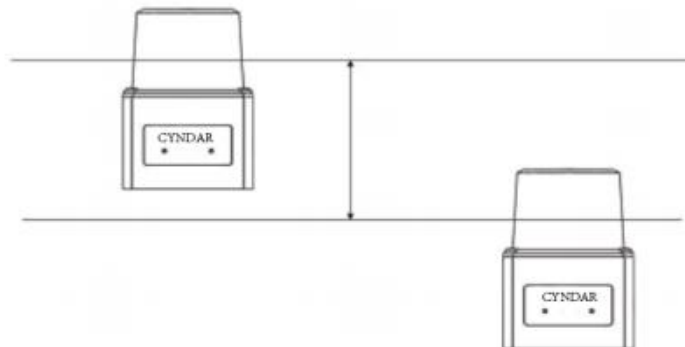
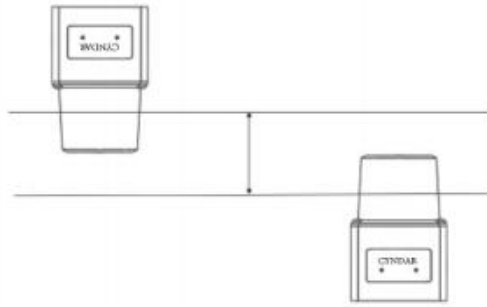
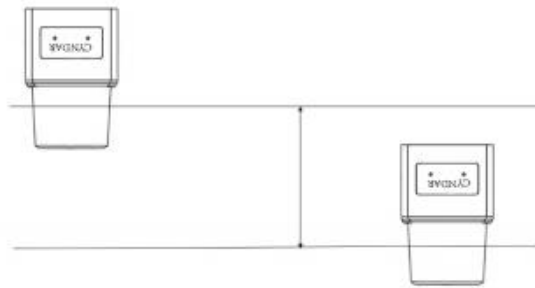

Figure 18. Vertical installation diagram (1)
Figure 19. Vertical installation diagram (2)
Figure 20. Vertical installation diagram (3)
2. When two or more radars are installed vertically, it is recommended to stagger the light output position of the radar by a certain distance to avoid the opposite shooting, as shown in Fig. 18, FIG. 19, FIG. 20 and Fig. 21.